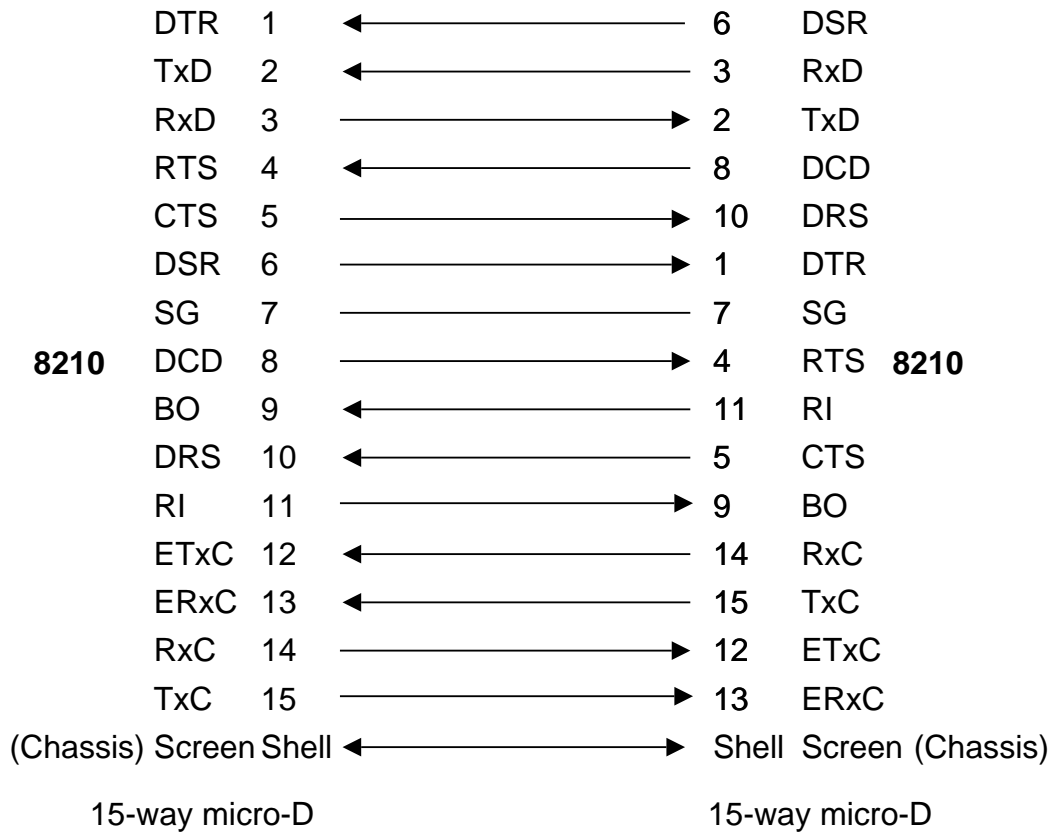

Figure B-4 8210 Card to 8210 Card Cable
- (3) 8210 Card to another 8210 Card ports 1 to 9 use cable X890-410411, Figure B-4.